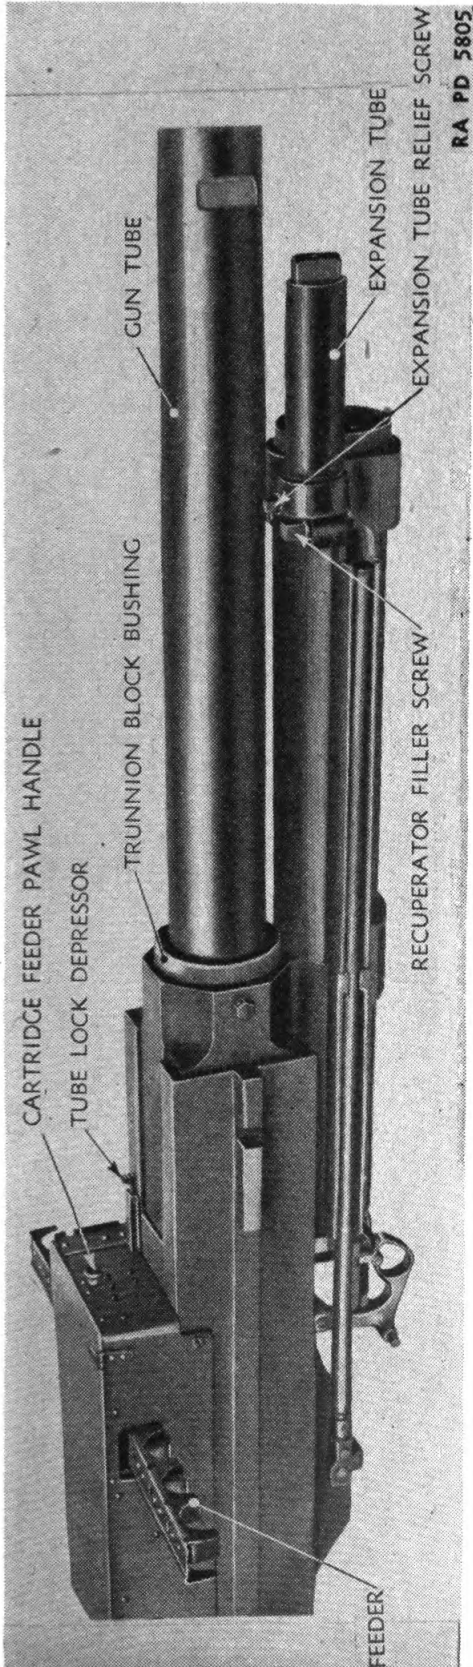

FIGURE 1.—Right front view of gun with feeder in place.
**6. Major assemblies.**—The entire gun (figs. 1, 2, and 3) depends for its operation upon the functioning and proper relationships of the following major assemblies:
**7. Trunnion block (fig. 1).**—This section of the gun mechanism is a rectangular casing open at the top and front and partly open at the bottom. The feed box is secured to the top of the trunnion block. The tube extension fits in the center of the block and projects through the front opening, at which point the gun is threaded and locked into the tube extension. The bottom of the trunnion block is flanged inward on each side to support the tube extension and lock frame, but it contains an opening large enough to permit ejection of the empty cartridge cases. In the back the trunnion block contains the slide in which the back plate assembly is secured.
**11. Recuperator** (figs. 1 and 2).—*a. Recuperator cylinder.*—The recuperator cylinder fits in the lower front opening of the trunnion block and houses the recoil piston rod, piston, recuperator springs, and the recoil oil. The piston rod is fastened to the lower part of the front section of the tube extension by means of the recuperator piston rod nut. As the tube and tube extension recoil, the piston moves backward, compressing the recuperator spring and forcing the recoil oil through the openings of the recuperator bushing. The expansion of the compressed recuperator spring returns the piston, piston rod, and recoil oil to their initial positions, thereby causing counterrecoil. The tube and tube extension are carried back to battery by the recuperator piston rod.
*b. Expansion tube* (fig. 1).—This is the small cylinder screwed to the upper front end of the recuperator. This cylinder is a hollow body used to compensate for expansion and contraction of the recoil oil in the recuperator.